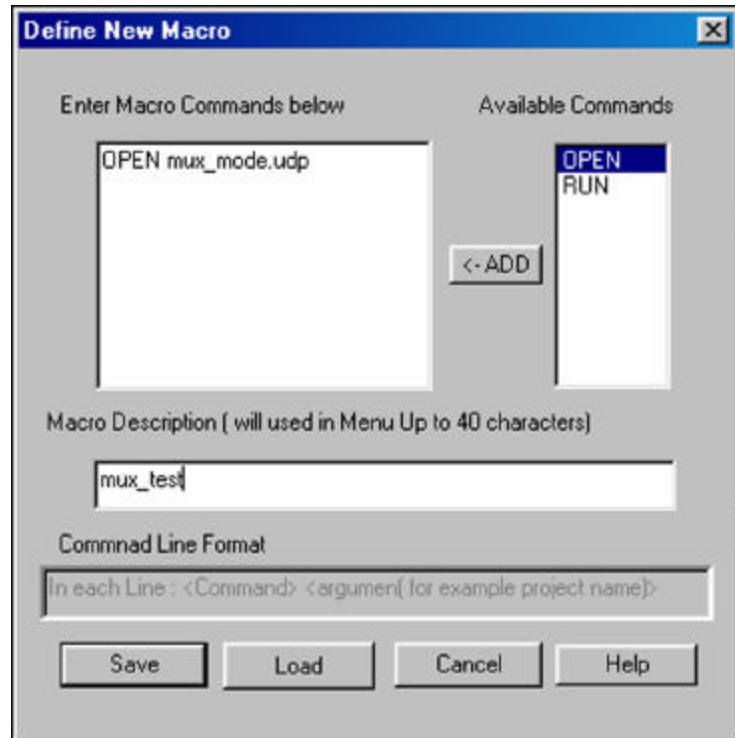

Figure 118 Defining the Macro
2. Click the **Define New Macro...** Button to open the .Macro Definition dialog box shown in Figure 118.